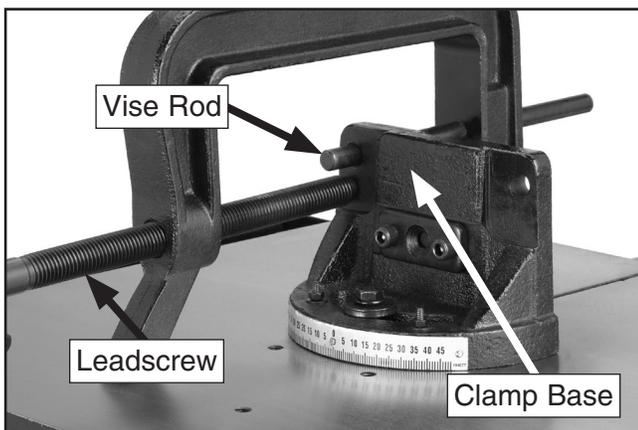

Figure 19. C-clamp vise.
1. Place the C-clamp vise over the vise base, then insert the vise rod into the clamp base, as shown in Figure 19.